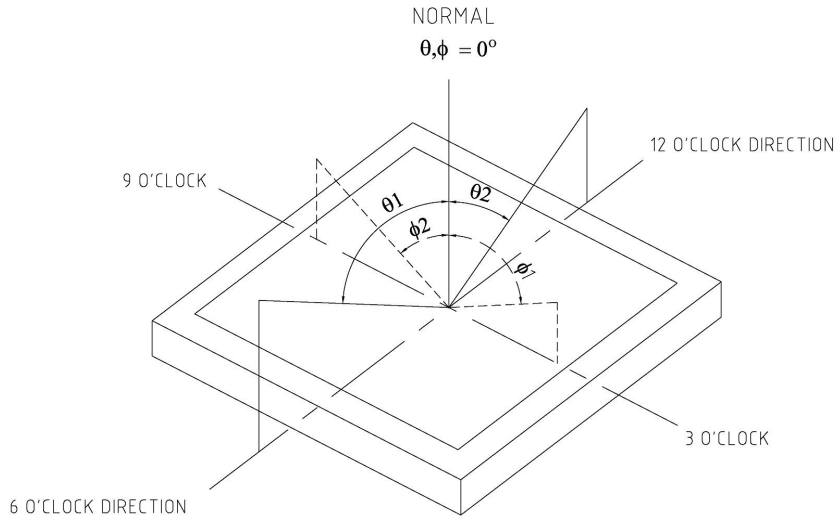

Figure 4-1 Viewing angle
2. Contrast measurements shall be made at viewing angle of $\theta = 0^\circ$ and at the center of the LCD surface. Luminance shall be measured with all pixels in the view field set first to white, then to the dark (black) state. (See FIGURE 4-1 shown in Appendix) Luminance Contrast Ratio (CR) is defined mathematically.